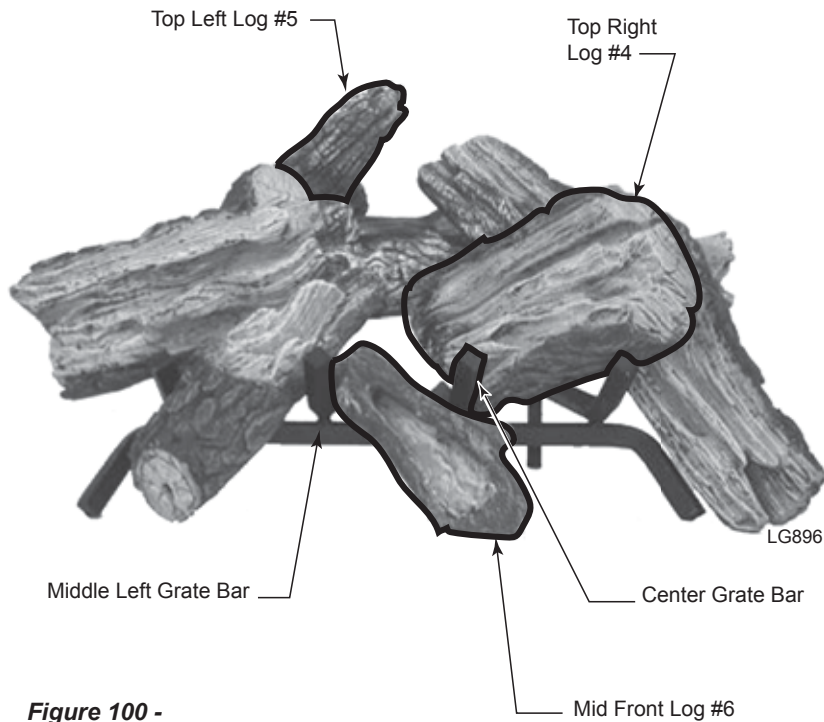

Figure 100 -
5. Place Top Right Log #4 on Bottom Right Log #2 resting on grate. *Figure 100*
6. Place Top Left Log #5 behind Rear Log #1 on the notch on rear left of grate stand. *Figure 100*
7. Place Mid Front Log #6 on grate between center and middle left grate bars. Fit notch on back of log on the cross grate bar. *Figure 100*